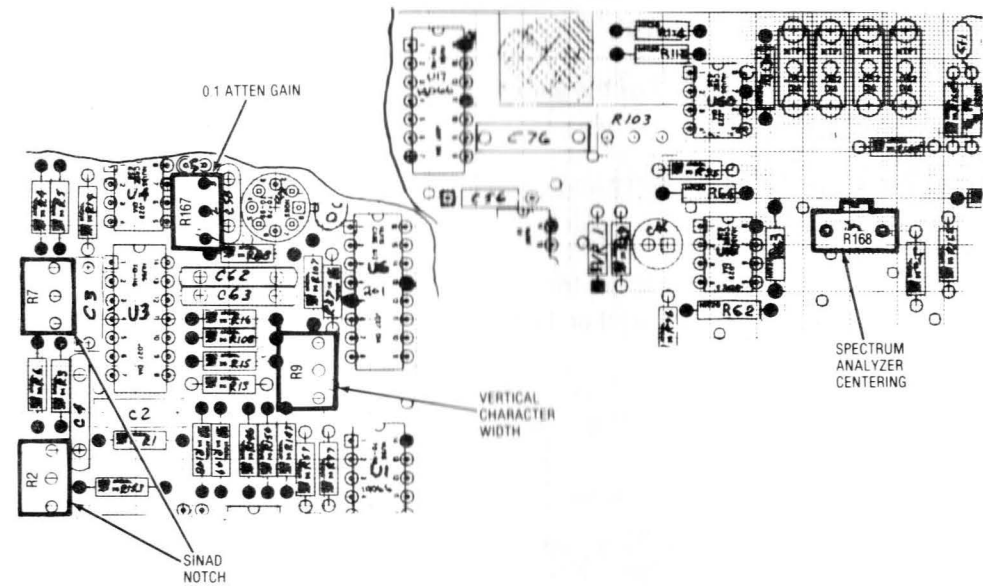

Figure 5-20. Scope/DVM Control Char Sweep and Sinad Alignment Points
- 4. Adjust the Horizontal Character Sweep Width Potentiometer on the Scope/DVM Control Board (Figure 5-20) so that the right-hand edge of the CRT character display is approximately 4.2 graticule divisions to the right of the graticule center line.
- 5. Adjust the Vertical Character Sweep Width Potentiometer on the Scope/DVM Control Board (Figure 5-20) so that the bottom edge of the CRT display is approximately 3.3 graticule divisions below the graticule center line.
- 5. Alternately adjust the two SINAD Notch potentiometers on the Scope/DVM Control Board (Figure 5-20) for a maximum SINAD reading on the CRT display. A reading greater than 30 dB should be obtained.